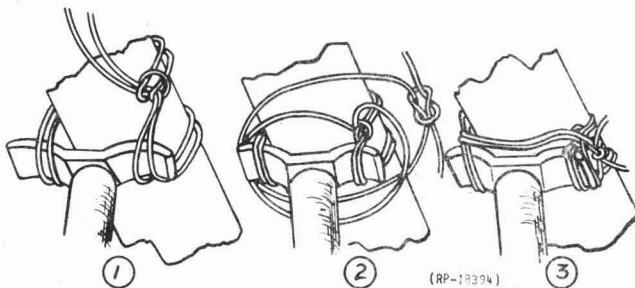

FIG. 7 SECURING INTERTIER WIRES ON BATTERY STANDS (PAR. 5.61)
5.61 On battery stands, racks, cabinets etc., where P-408832 or P-69690 form supports are used secure wires as shown in Figure 7. Where more than two 1/0 wires, or combinations of wire equivalent in size, are to be fastened to these supports secure the first group as shown in Figure 7 and fasten the remaining wires with a Chicago stitch located close to the first stitch.